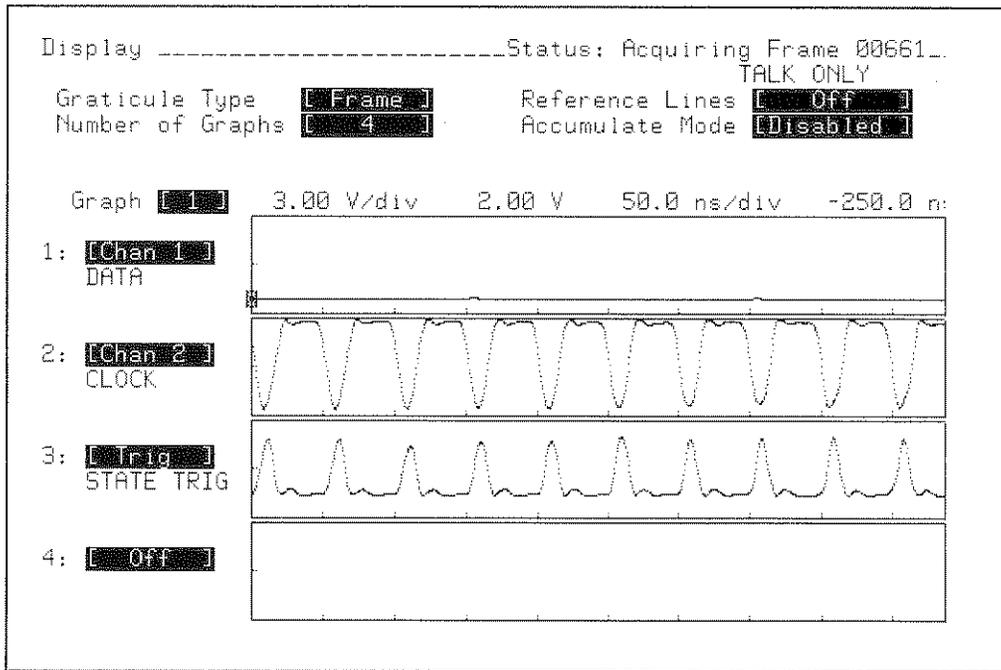

Figure 9-26. DISPLAY Configuration and Clock Repetition Rate Test Waveforms
10. Configure the display as shown in figure 9-26. Observe the two waveforms displayed on the 54200D. The two waveforms should appear similar to those shown in figure 9-26.